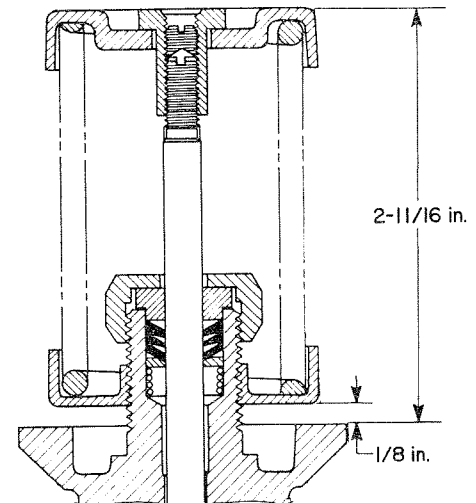

Fig. 4.11
14. Reassemble the spring and actuator, reversing the procedure in Steps 3 through 6. Verify the distance between the lower spring plate and the top surface of the bonnet. Readjust the spring plate if necessary (see Fig. 4.11).
9. Reassemble the valve. The relative positions of the upper and lower spring seats are shown in Fig. 4.11.